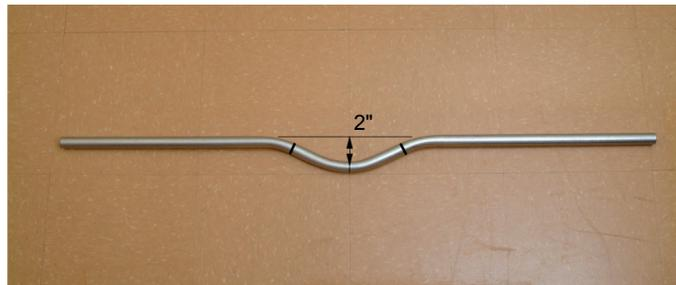

Figure 32. A three-bend saddle deep enough to clear a 2" obstruction (performed on a piece of 3/4" EMT).
5. Make the bends required on your piece of 3/4" EMT to obtain a three-bend saddle that can clear a 2" circular obstruction and is located in the middle of the piece of EMT, as shown in Figure 32.